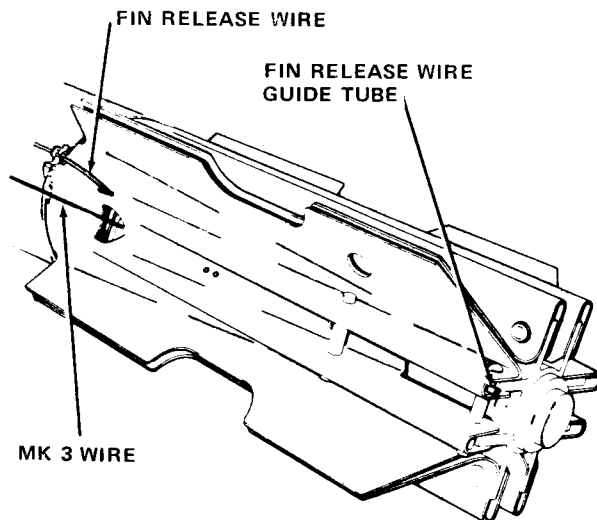

Figure 3-39. Fin Release Wire Guide Tube Inside Fin MK 15 Mod 2
24. On the fin MK 15 Mod 2, install fin release wire (0.064 inch diameter) through release band and into slot in top fin blade (figure 3-39). Feed wire into fin blade until it emerges from aft end of fin. Disregard all WARNING decals on fin concerning Fahnestock clips.
15. On the fin MK 15 Mod 2, install fin release wire (0.064 inch diameter) through release band and into slot in top fin blade (figure 3-39). Feed wire into fin blade until it emerges from aft end of fin. Disregard all WARNING decals on fin concerning Fahnestock clips.